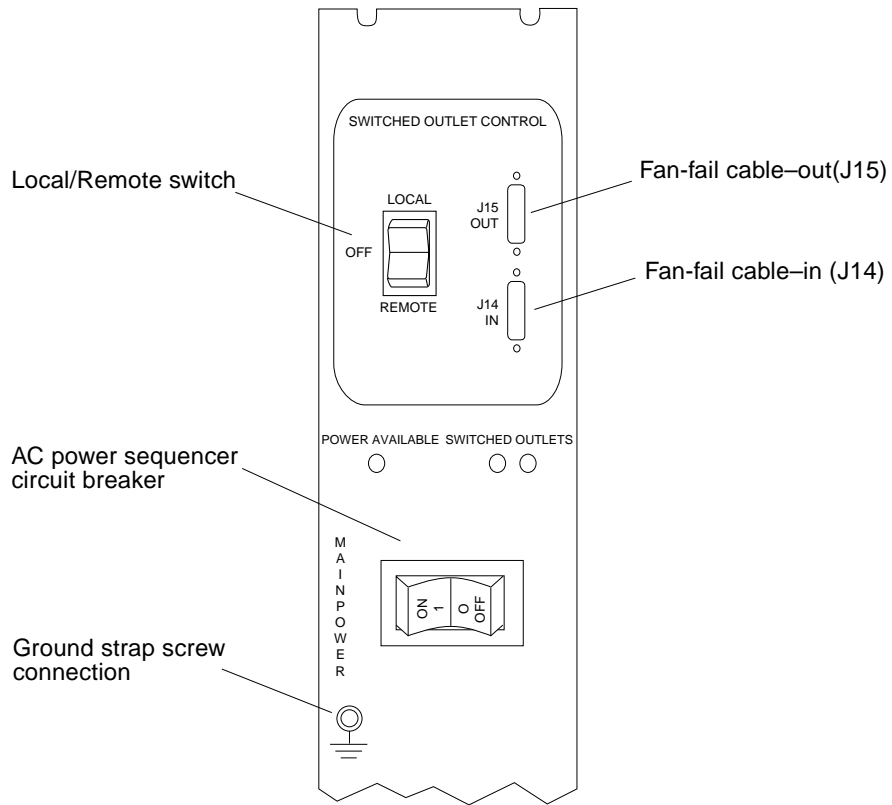

FIGURE 2-3 Power Sequencer Control Panel
4. **Verify the positions of the Local/Remote switches** (FIGURE 2-3):
1. **Connect one end of the fan-fail cable to the J15 port (FIGURE 2-3) on the power sequencer in the system cabinet.**